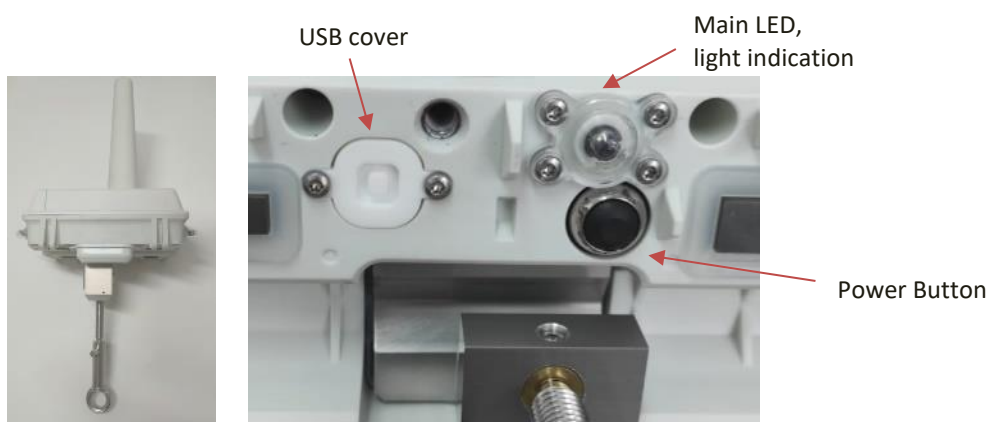

Figure 5: USB cover, Power Button and Main LED
- GS USB connector is located under the USB cover. Using the Torx head screwdriver, loosen the screws that holds the **USB cover** and remove it (see Figure 5, page 6).